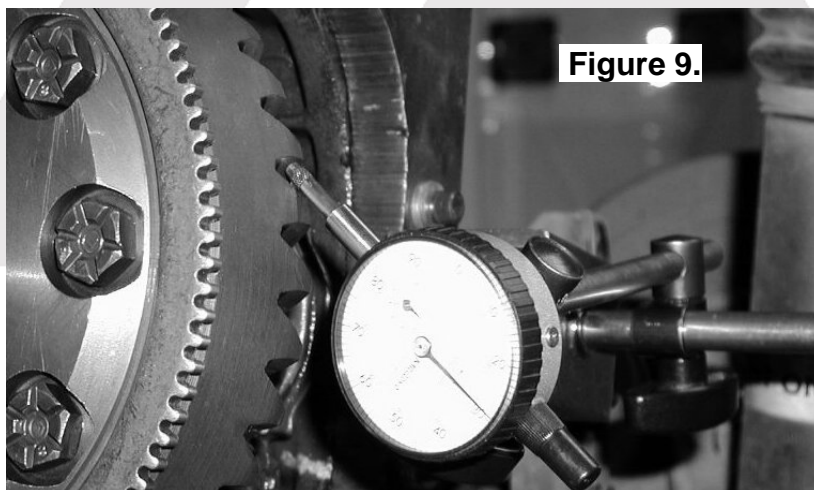

Figure 9.
- Set a depth indicator on one of the ring gear teeth as in Fig. 9.